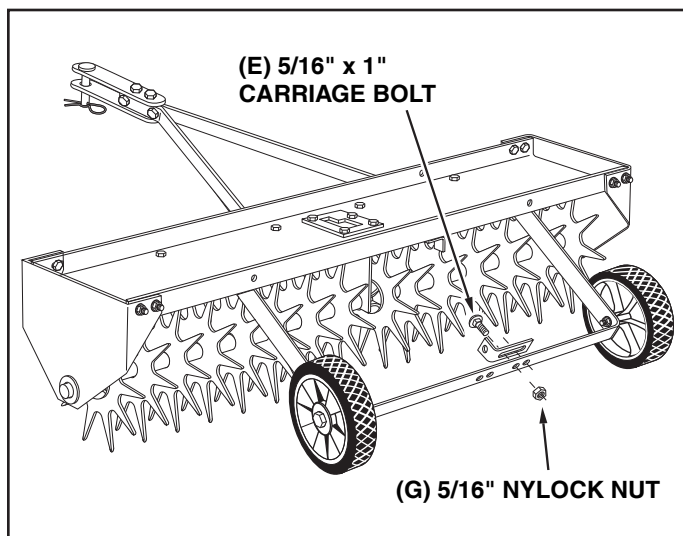

FIGURE 14 REAR VIEW
24. Assemble a hitch arm mount bracket to the axle bracket using two 5/16" x 1" carriage bolts (E) and 5/16" nylock nuts (G). **Do not tighten yet.** See figure 14.